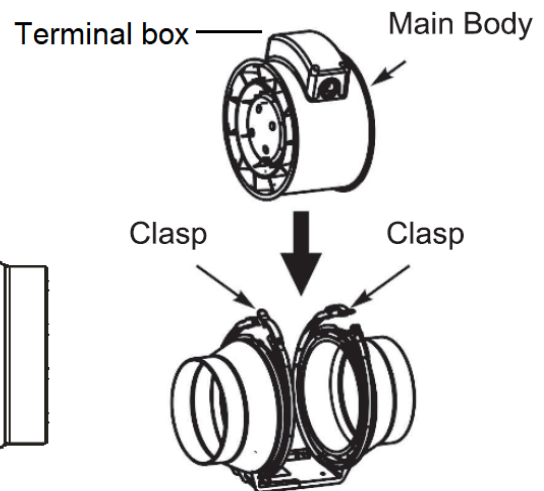

Fig. 3 – Install main body
5. Fit the main body back to the clasp and tighten the locking screws. (Fig.3)